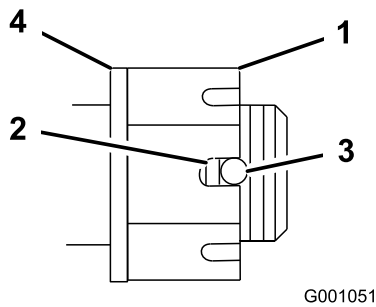

Figure 3
17. Torque the slotted nut to 125 ft-lb (170 N-m) (Figure 3).
18. Check the distance from bottom of slot in nut to inside edge of hole. Two threads or less should be showing (Figure 3).
20. Tighten the nut until the next set of slots line up with the hole in the shaft (Figure 3).